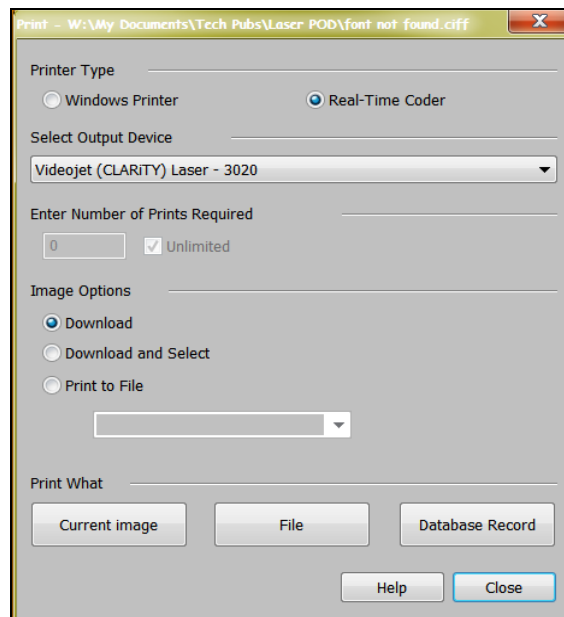

Figure 5-14: Select Output Device
- 2 Click the laser system icon from the tool bar in CLARiSOFT. The *Print* window appears (see Figure 5-14 on page 5-26).